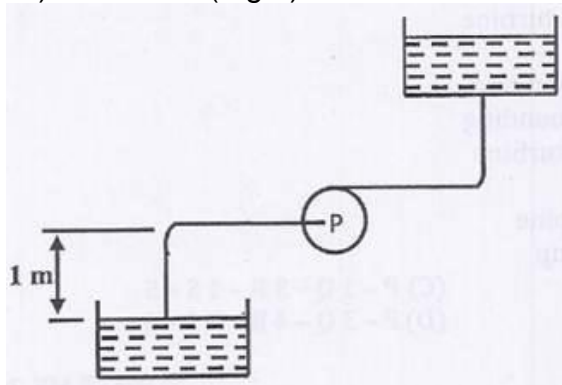

Fig 1.
11. a) The head loss  $h_L$  due to fluid friction in a pipe depends on diameter  $D$ , length  $L$ , roughness ( $k$ ) velocity  $V$ , gravity  $g$  and fluid density and viscosity  $\mu$ . Derive the expression  $h_L$  in dimensionless form. (5)
- b) 1: 6 scale model of a passenger car is to be tested in a wind tunnel. The prototype velocity is 60 Kmph. If the model drag is 250N, what is the drag and power required to overcome the drag in the prototype. The air in the model and prototype can be assumed to have same properties. (5)
- iii) Efficiency. (5)
- b) Discuss the dynamic forces of the jet impinged in different types of vanes. (5)
- 13 a) Derive the draft tube efficiency formula in case of reaction turbine and state the functions (5)
b) Explain the characteristic curves of turbine with neat diagrams. (5)
- 14 a) A horizontal shaft centrifugal pump lifts water at  $65^{\circ}\text{C}$ . The suction nozzle is one meter below pump centerline. The pressure at this point is equal to 200 kPa gauge and velocity is 3 m/s. Steam tables show saturation pressure at  $65^{\circ}\text{C}$  is 25 kPa, and specific volume of the saturated liquid is  $0.0010 \text{ m}^3/\text{kg}$ . Determine the Net Positive Suction Head (NPSH) in meters. (Fig 1) (5)